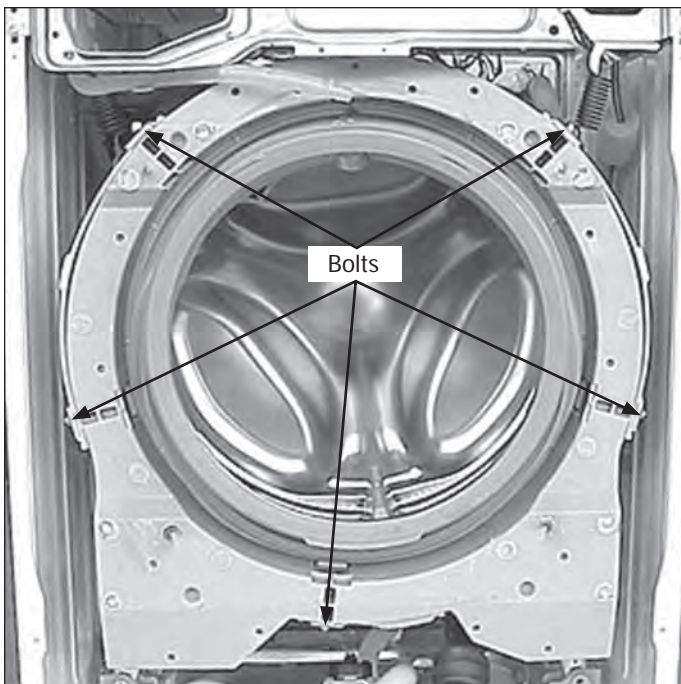

Figure 4-47.
7. Using a 7/16" socket, remove the (5) bolts holding the weight ring to the outer tub and slide the weight ring off the outer tub front. (See Figure 4-47)